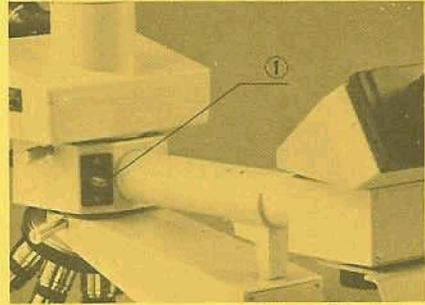

Fig. 2
- 2) The partner is conveniently provided with a manipulator lever ① to control the pointer from the opposite position to the demonstrator. (Fig. 2)